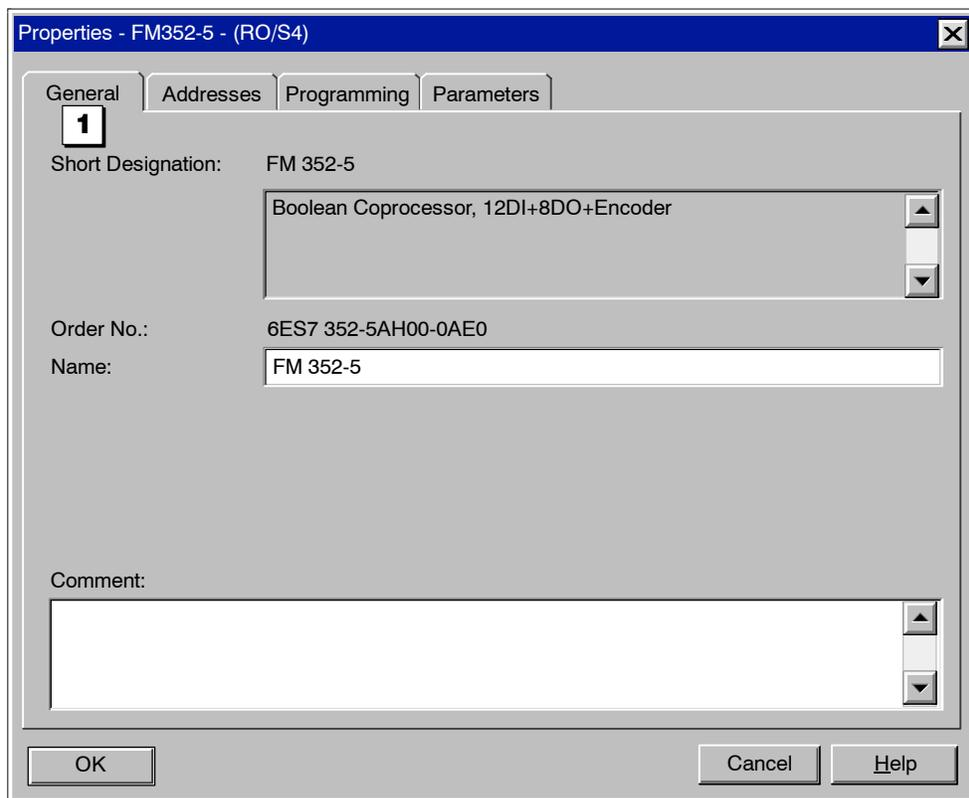

Figure 4-3 FM 352-5 Properties Dialog, General Tab
- 1 The General tab, shown in Figure 4-3, displays basic identification and descriptive information. You can also use this dialog to enter comment information.